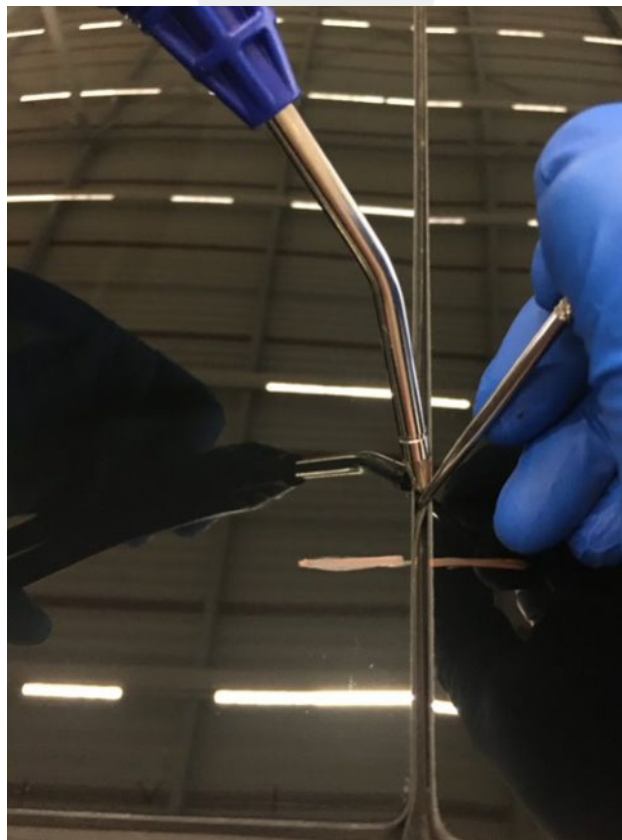

Figure 7
5. Use compressed air to thoroughly clean and dry the surrounding areas where the sealant will be injected (Figure 7).